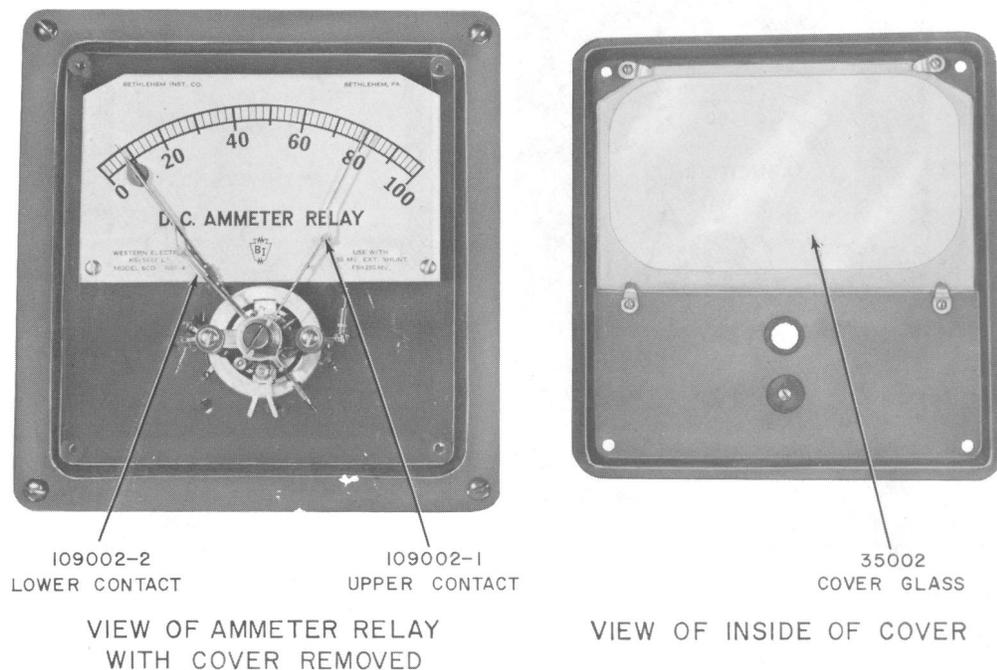

Fig. 1—KS-5662 Ammeter Relay
**2.01** Fig. 1 through 3, included in this part, show three ammeter relays that are typical. The piece-part numbers and corresponding names of the replaceable parts for specific ammeter relays are shown in the figures and in Table A.